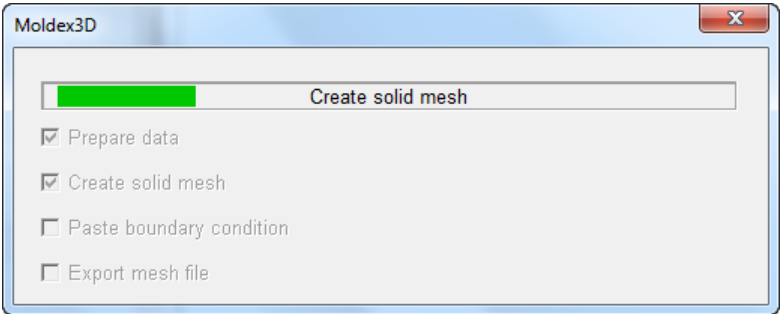

Figure 16-80 The Moldex3D window
- 4. Choose the **OK** button; the dialog box closes and the **Moldex3D** window showing the progress of solid mesh generation is displayed, refer to Figure 16-80.